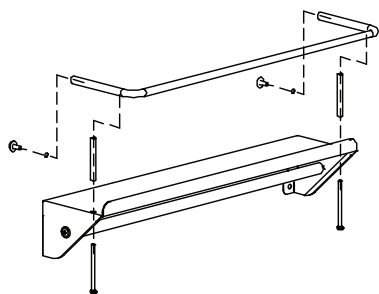

Figure 3
4. Fix the pillar to rail using 2 supplied screws M4×50 and 2 supplied pillars, secure the rail to shelf (see Figure 3).